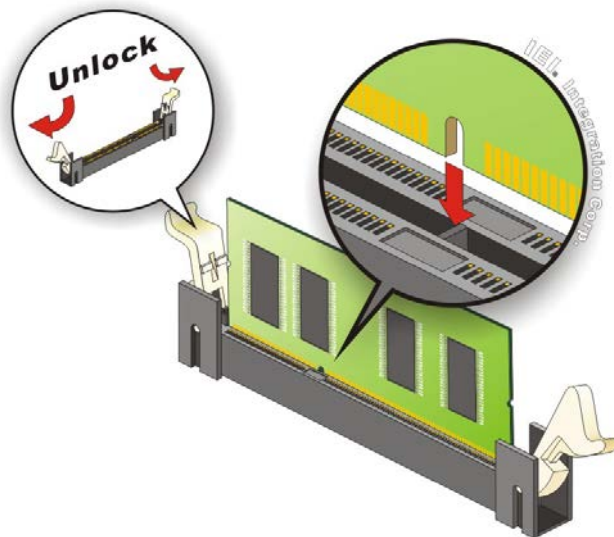

Figure 4-1: SO-DIMM Installation
To install an SO-DIMM, please follow the steps below and refer to **Figure 4-1**.
- Step 1:** Open the SO-DIMM socket handles. Open the two handles outwards as far as they can. See **Figure 4-1**.
- Step 2:** Align the SO-DIMM with the socket. Align the SO-DIMM so the notch on the memory lines up with the notch on the memory socket. See **Figure 4-1**.
- Step 3:** Insert the SO-DIMM. Once aligned, press down until the SO-DIMM is properly seated. Clip the two handles into place. See **Figure 4-1**.